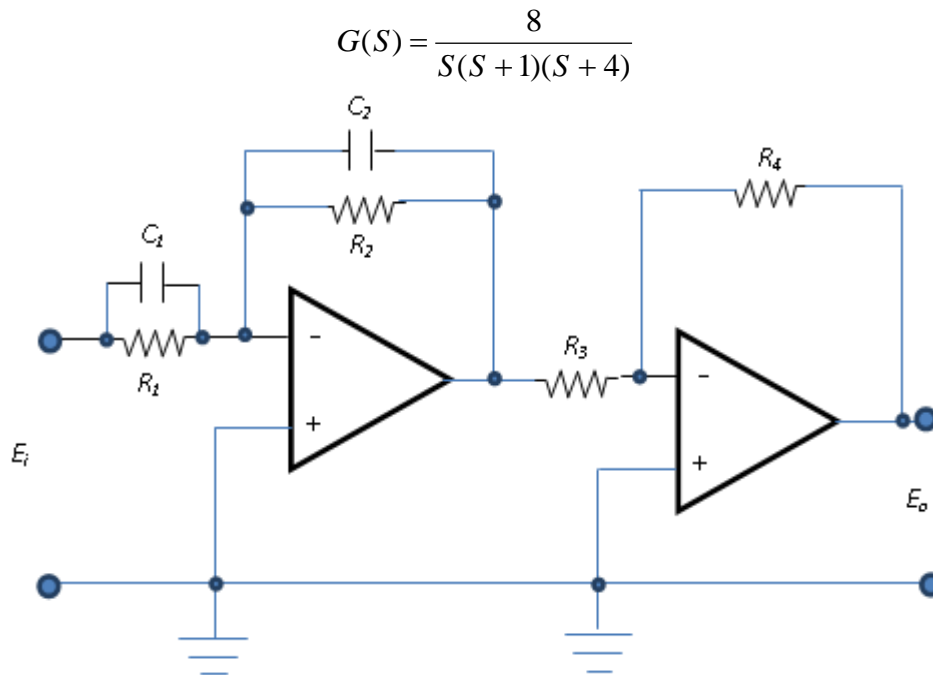

Figure-7
- 07** For the system described by the following transfer function the static velocity error constant is 2 s^{-1} . It is desired to reduce the steady state error to half without changing the location of dominant closed loop poles. In order to do so an electronic circuit, given in figure-7, is added in series with the system to provide necessary pole-zero placement. Determine the values of R_1, C_1, R_2, C_2, R_3 and R_4 to yield the desired steady state response. **[16]**